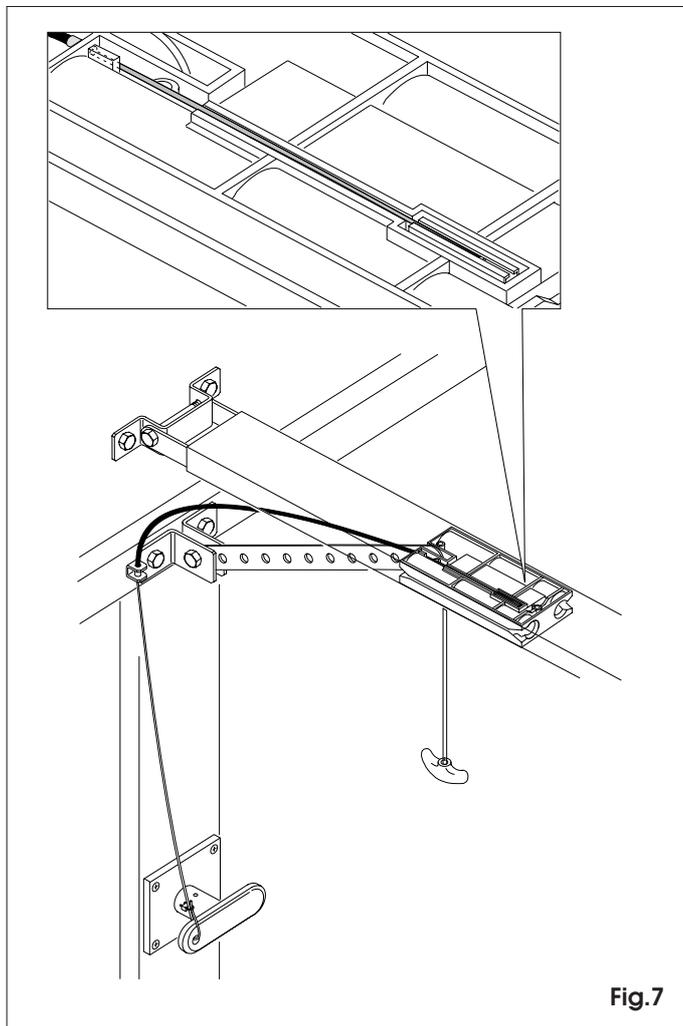

Fig.7
6.1 If using the outside release device (optional item), withdraw the carriage from the guide, and fit the cable in the appropriate seat on the carriage, as shown in figure 7.